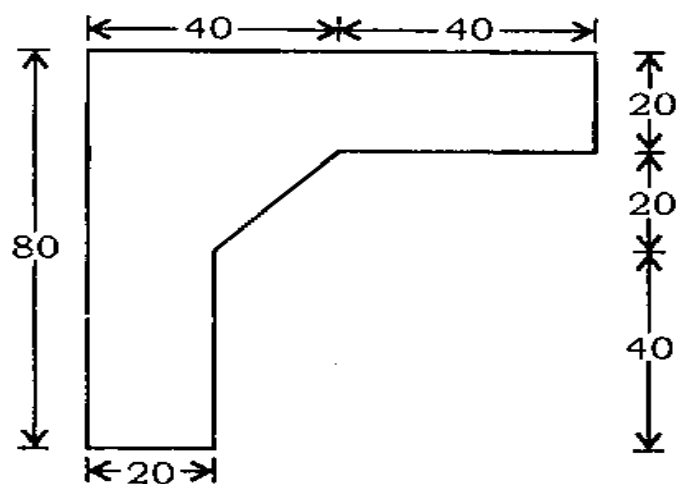

Fig. 1
1. (a) Determine the centroid of the Angle section shown in Fig. 1. 10